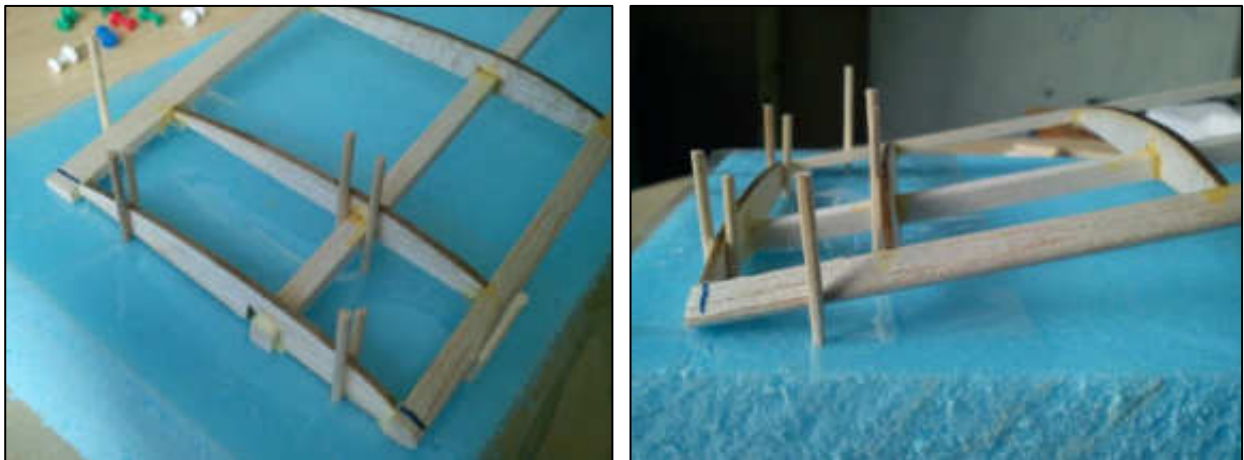

Figure 9: Position and glue the central rib.
9. Using cocktail sticks, locate the central rib so that it is positioned vertically. Glue the rib in place as shown in Figure 9. Repeat for the second wing.